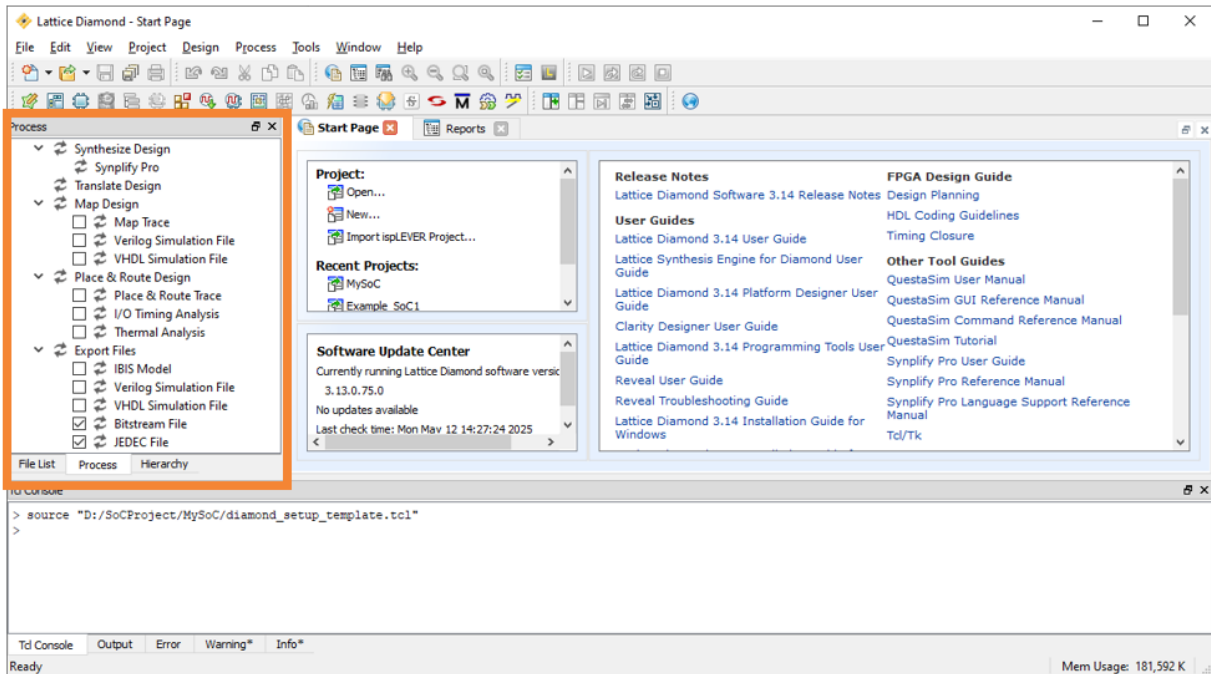

Figure 6.14. Generating the Programming File
2. Switch to the **Process** view of the Lattice Diamond project and make sure Bitstream File or JEDEC File is checked in the **Export Files** section (Figure 6.14).